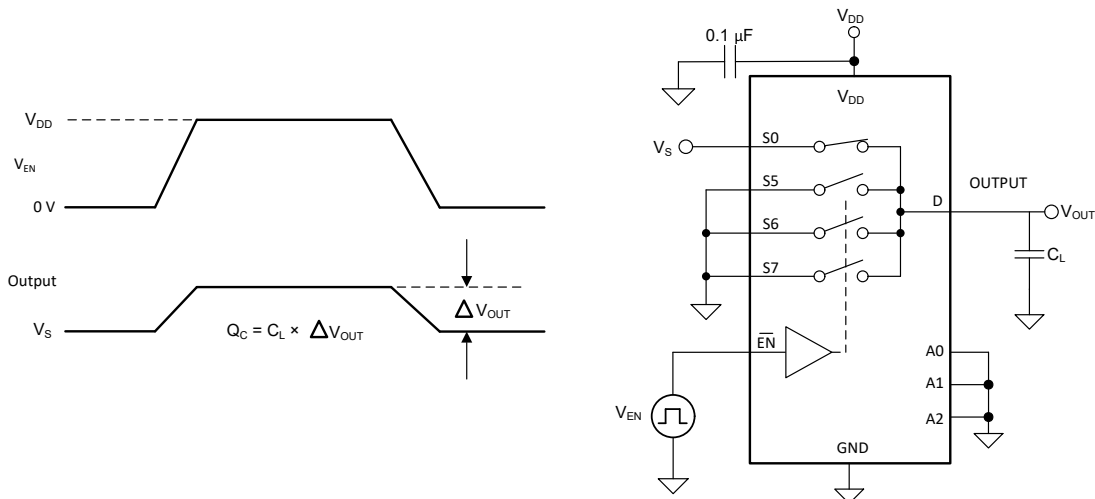

图 8-4. Charge-Injection Measurement Setup
Any mismatch in capacitance between the NMOS and PMOS transistors results in a charge injected into the drain or source during the falling or rising edge of the gate signal. The amount of charge injected into the source or drain of the device is known as charge injection, and is denoted by the symbol Q_C . 图 8-4 shows the setup used to measure charge injection from source (Sx) to drain (D).